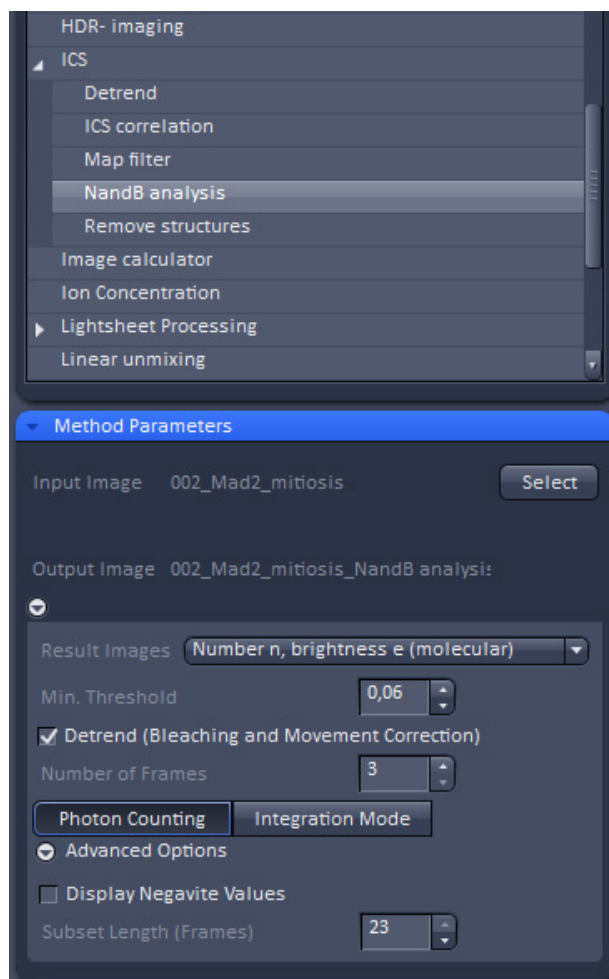

Fig. 546 NandB Method Parameters tool
- Click **NandB Analysis** in the **ICS** tool. The **Method Parameters** tool shows the input options for this function (Fig. 546).